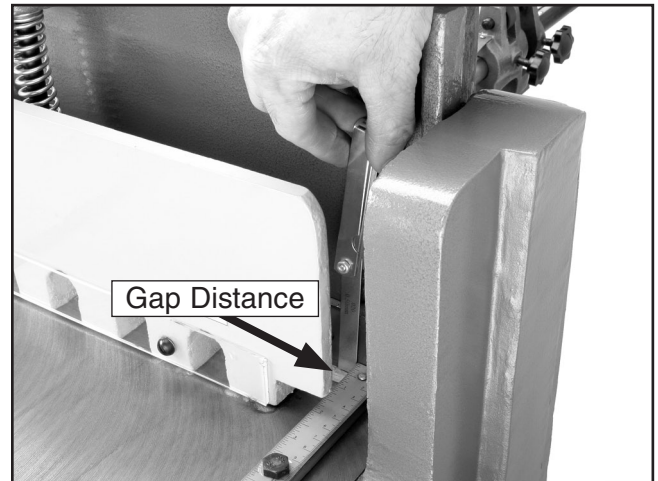

Figure 18. Measuring gap between blades.
6. Turn the table adjustment screws to move the fixed blade away from the moving blade so you have a gap of 0.002". Check this measurement with a feeler gauge as shown in **Figure 18**.